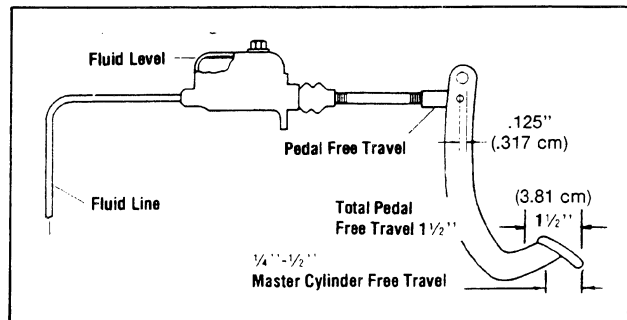

Figure 12:
1. Check clutch master cylinder actuator rod length to obtain .125 inch (.317 cm) movement of the rod before the master cylinder piston is actuated with the pedal in the full up position. This clearance is necessary to ensure full retraction of both the master cylinder and slave cylinder pistons. If adjustment should be necessary, loosen the jamb nut on the actuating rod and screw the rod "in" or "out" to obtain the recommended .125 inch (.317 cm) lash and retighten the jamb nut. (see Fig. 12).